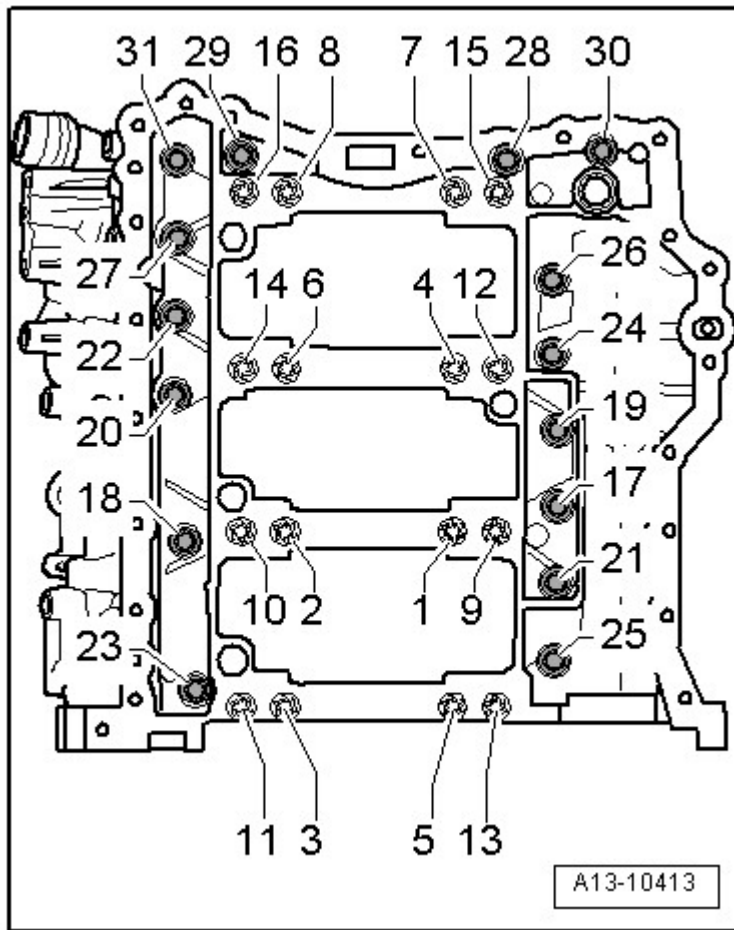

Fig. 5: Identifying Guide Frame Bolts Tightening Sequence
- Tightening sequence, refer to **Fig. 5**